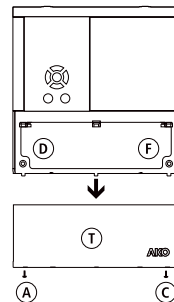
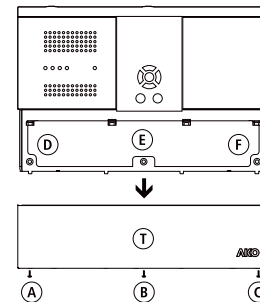

FIG. 1a
FIG. 1b
- Remove cover T from the equipment (Fig. 1a or Fig. 1b).
- Insert and tighten screws D, E, F (Fig. 1a or Fig. 1b)
- After connecting the cables based on the connection diagram, close cover T, insert and tighten screws A, B, C (Fig. 1a or Fig. 1b).
- After connecting the cables in accordance with the connection diagram, close cover T, and insert and tighten screws A, B, C (Fig. 1a or Fig. 1b).